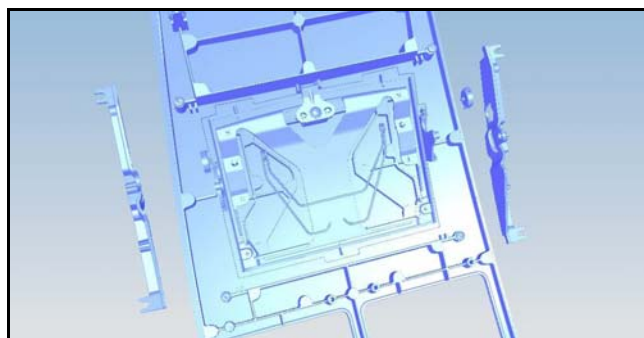

Figure 5
6. Remove the screws that attach the left and right navigation door hinge brackets to the panel. Remove the brackets (refer to Figure 5).